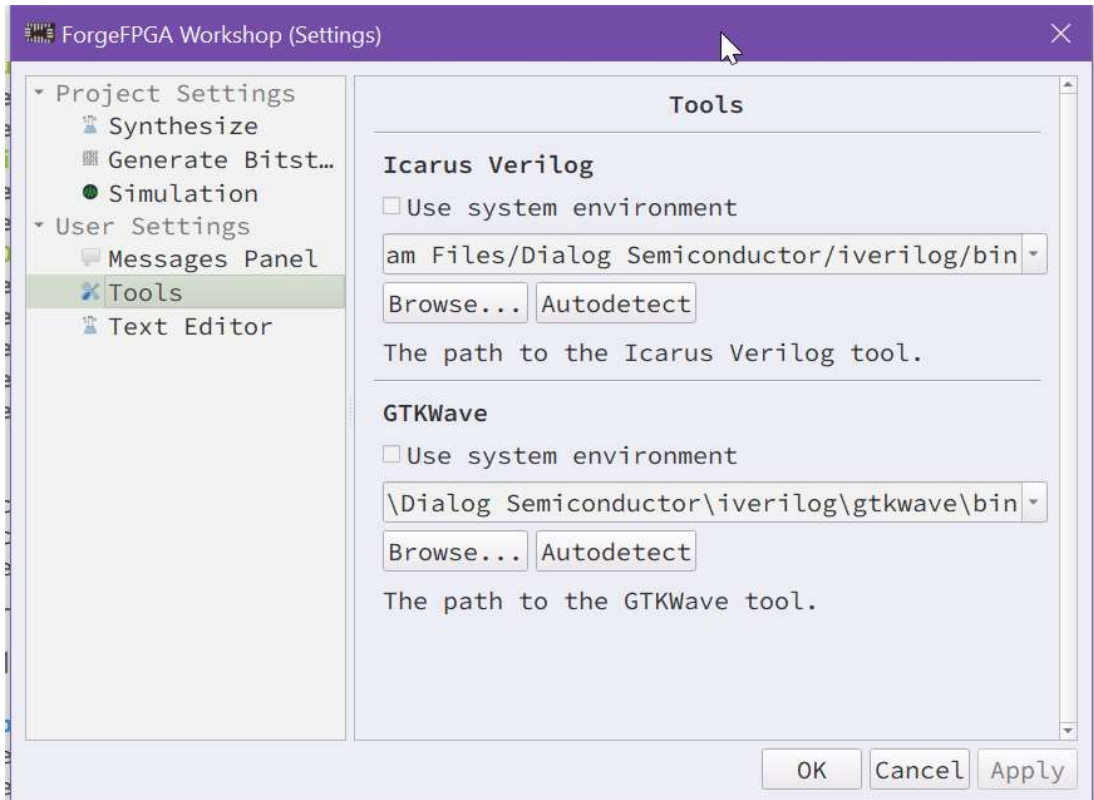

Figure 4. Configure Tools
- e. A new window opens called the Forge Workshop. In the menu toolbar on the top, click on Options → Settings. In the Settings dialog box, go to Tools under User Settings tab. Unselect the Use "system environment box" for both Icarus Verilog and GTKWave. Add the path to Iverilog and GTKWave saved in your system into the space given (see Figure 4).